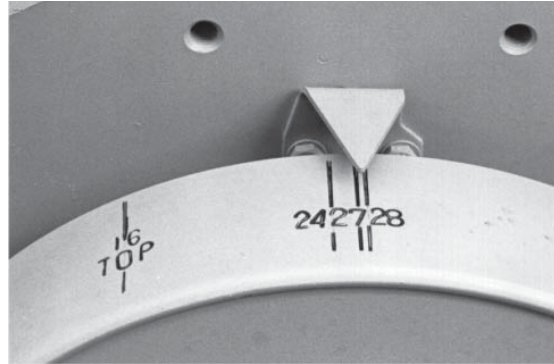

Figure 12. Pointer and Crankshaft Damper
- c. Align the injection timing stamp line (27° ±1° BTDC, 24° on 600HP Luggers) on No. 1 cylinder on the crankshaft damper with the pointer by slowly rotating the crankshaft in the clockwise direction (see Fig. 12). On IMO certified engines, refer to the data plate on the block for proper timing data.
- f. If the injection timing stamp line on the crankshaft damper is aligned with the pointer, according to data plate specifications, it is correct. (see Fig. 12).